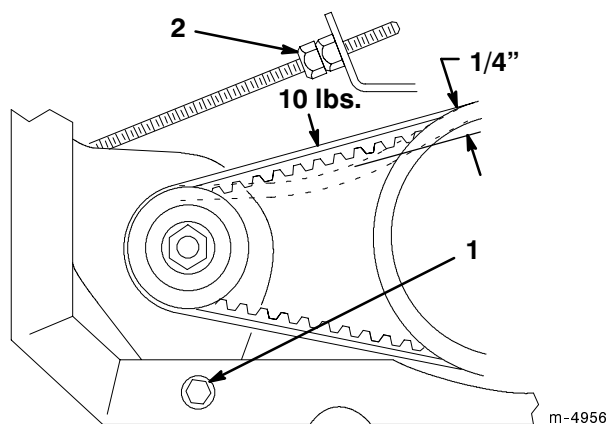

Figure 25
2. Loosen the starter generator pivot bolt (Fig. 25).
3. Adjust the jam nut on the starter rod (Fig. 25) until the belt flexes 1/4" with 10 lbs. of force.
4. Tighten the starter generator pivot bolt (Fig. 25).